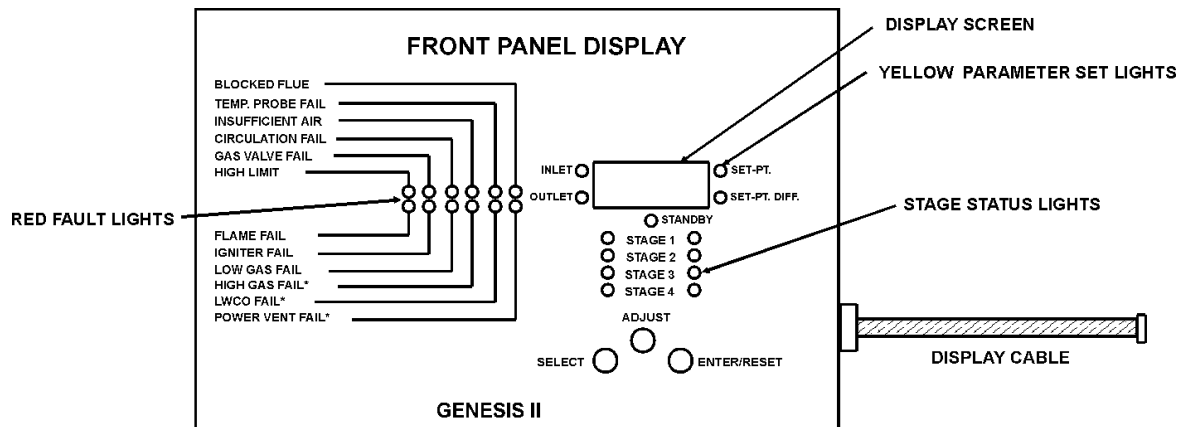

Figure 17. Display Board
The Display Board, Figure 17, allows the end user to monitor water temperature, set-points, differentials, options, fault indications and error codes. Display Board push-buttons labeled "ADJUST", "SELECT" AND "ENTER/RESET" enable the user to adjust set-points, differentials, post-circulate time, reset the cycle count and reset the control system during lockout. Changes made to programmable features are stored in nonvolatile memory.
When power is applied to the Control System, the Display Board will initially run through a self-diagnostic test, and then display the inlet temperature. To display a specific setting or temperature, press the SELECT push-button until the appropriate LED is illuminated; see Figure 17. After 5 seconds, the Display Board will automatically revert to displaying the Inlet temperature. Pressing the ENTER/RESET push-button will hold the display in the indicated mode until the SELECT push-button is pressed.
Green LEDs indicate when a given stage has sensed flame and is in the heating state. They also are used to indicate when the Set-Point differential for a given stage is being viewed or adjusted; see Figure 17.
The Red LEDs are illuminated to show faults and help in trouble shooting. There are three faults (High Gas Fail, LWCO and Power Vent Fail) listed as "Optional" which are only functional when the particular "Optional" equipment is included with the boiler. The red stage LEDs indicate the stage on which a given fault has occurred; see Figure 17.
The five yellow parameter set lights allow the user to view system set points and options. In conjunction with the four green stage LEDs, the user can monitor and change settings on the various stages; see Figure 17.
1. Press the SELECT push-button on the Display Board until both the Set-Pt LED and Outlet Water Temperature LED are illuminated; see Figure 17.
1. Press the SELECT push-button on the Display Board until both the Set-Pt LED and Inlet Water Temperature LED are illuminated; see Figure 17.
1. Press the SELECT push-button on the Display Board until both the Set-Pt Diff. and green Stage One LED are illuminated; see Figure 17.
1. Press the SELECT push-button on the Display Board until the LED display reads "OP" (Options); see Figure 17.
6. The display will automatically return to illustrating the controlling probe temperature after five (5) seconds.
5. The display will automatically resort to illustrating the controlling probe temperature after five (5) seconds.